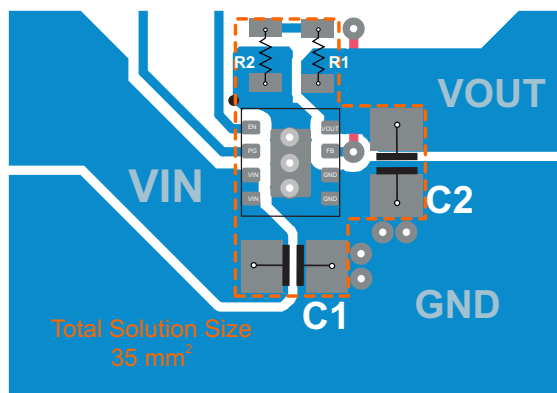

Figure 22. TPS82084 PCB Layout
- Refer to Figure 22 for an example of component placement, routing and thermal design.